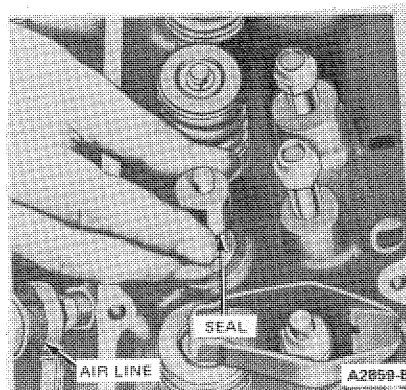

FIG. 41 Removing or Installing Valve Stem Seal
6. Remove and discard the valve stem seal (Figure 41).
2. Install a new valve stem seal (Figure 41). Place the spring in position over the valve and install the valve spring retainer and sleeve. Compress the valve spring and install the valve spring retainer locks. Remove the compressor tool and stud nut.